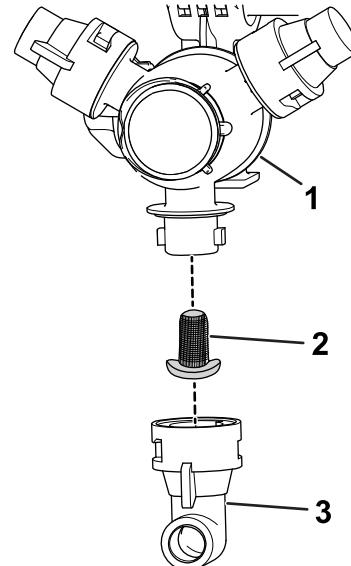

Figure 104
2. Remove the nozzle from the spray turret (Figure 104).
3. Remove the old nozzle filter (Figure 104).
4. Install the new nozzle filter (Figure 104).
5. Install the nozzle onto the spray turret (Figure 104).